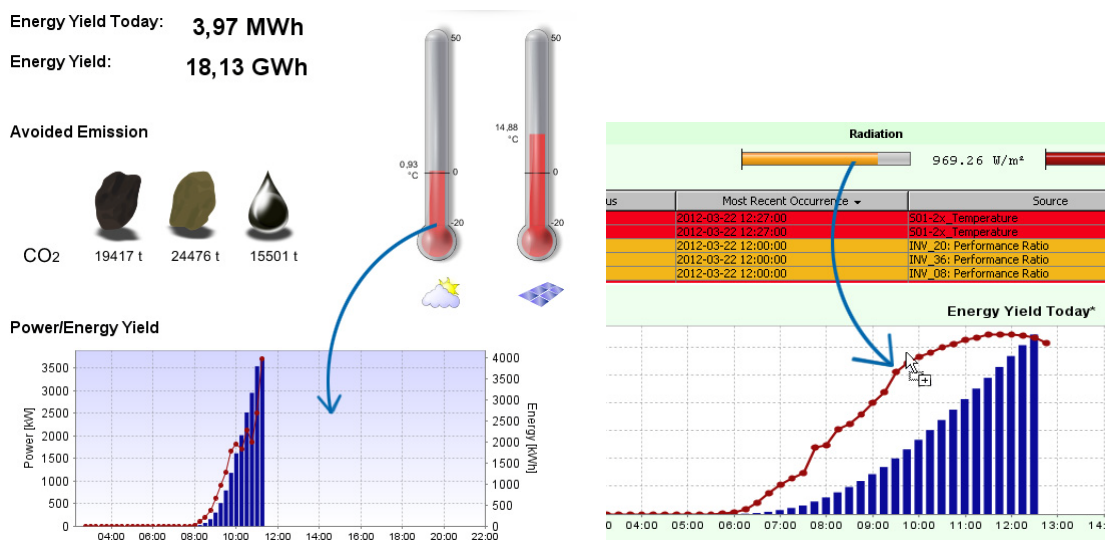

Fig. 28 Drag & drop procedure: presentation (left), blocks (right)
- Inserting data from displayed device indicators or symbols into charts (new, existing or embedded in other views). See Fig. 28 on p. 33, left.
- Inserting data from bar graphs into charts (new, existing, embedded). See Fig. 28 on p. 33, right.